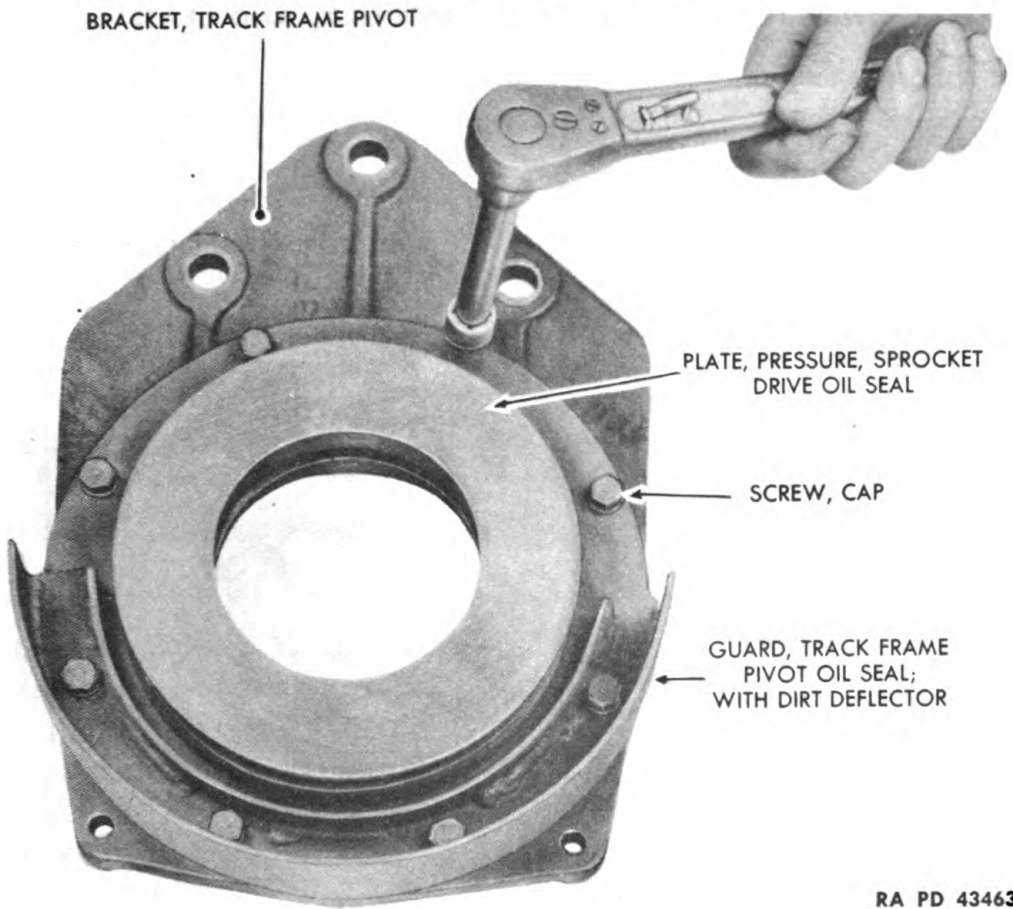

Figure 128 – Track Frame Pivot Bracket Disassembly
- (2) **DISASSEMBLE TRACK FRAME PIVOT BRACKET** (figs. 128 and 129).
(2) INSTALL TRACK FRAME PIVOT BRACKET (figs. 128 and 129).